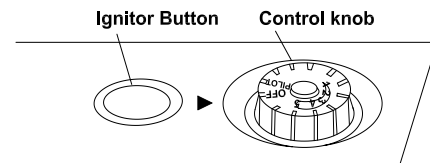

Figure 19 - Control Knob in the OFF Position
4. Wait five (5) minutes to clear out any gas. Then smell for gas, including near the floor. If you smell gas, STOP! Do not try to light any appliance. Do not touch electrical switch or use any phone in the building. Immediately contact gas supplier from a neighbor's phone. Follow gas supplier's instructions. If you can't reach the gas supplier, call the fire dept. If you don't smell gas, go to the next step.
5. Turn control knob counterclockwise ↻ to the PILOT position. Press in control knob for five (5) seconds (see Figure 19).